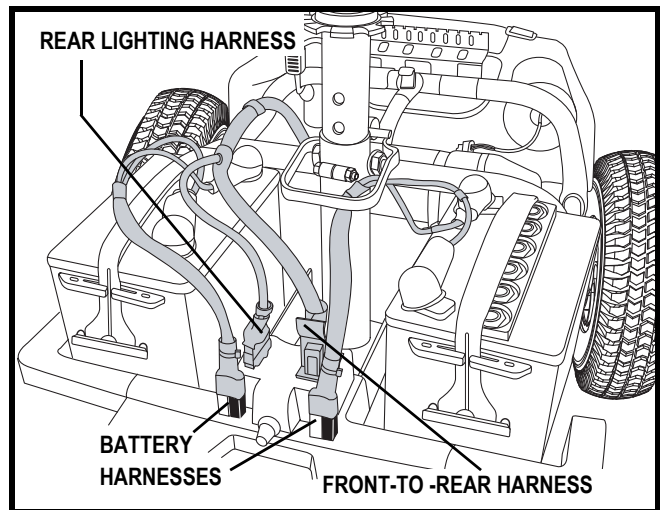

Figure 22. Harness Connections
6. Unplug both battery harnesses. Pull each harness straight up. See figure 22.
6. Connect the front-to-rear harness, rear lighting harness, and both battery harnesses. See figure 22.